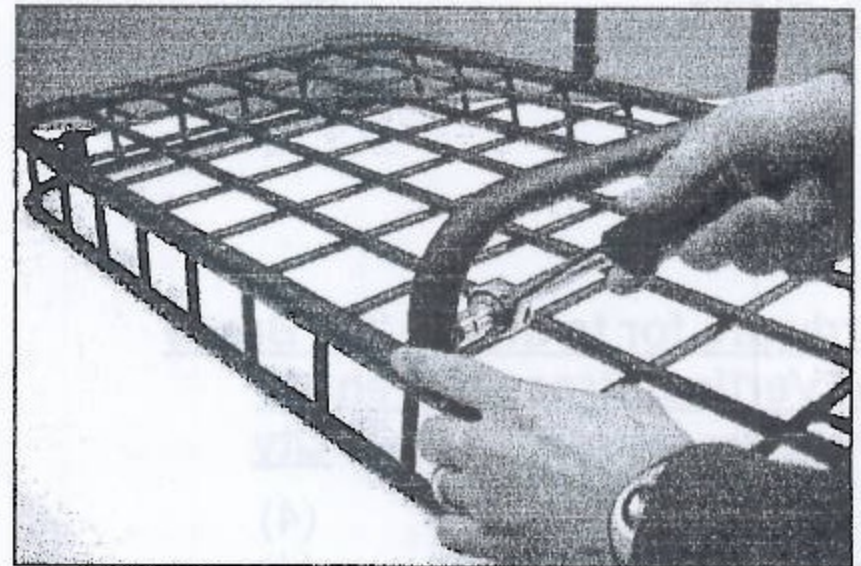

Figure 3
3. Loosely secure the (2) Curved Bars (item 3 on Page 1) to the outer posts as shown in Figure 3, using the included Carriage Bolts, Washers, and Nuts.